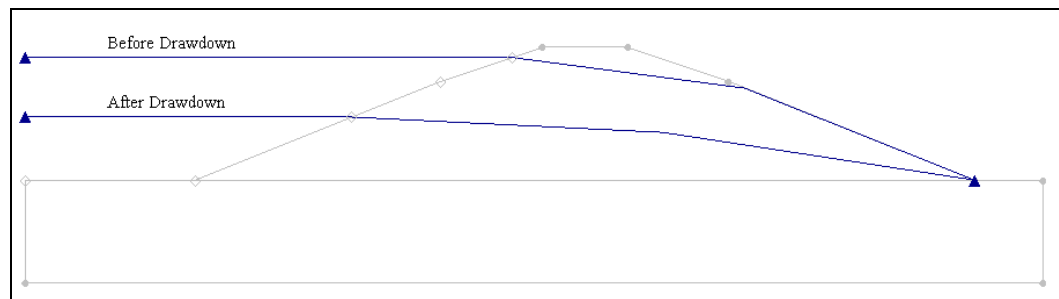

Figure 3. Piezometric lines before and after drawdown.
3. Using the *Create Arc* tool  connect the points to form the “Before Drawdown” arc shown in Figure 3 above.
At this point you should have created the two piezometric lines shown in Figure 3 (above) and can turn **on** the *Profile lines* coverage if it was off.